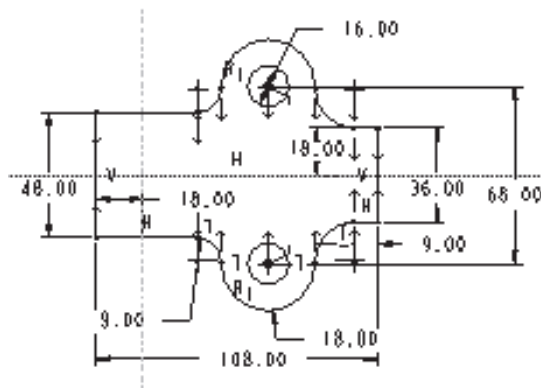
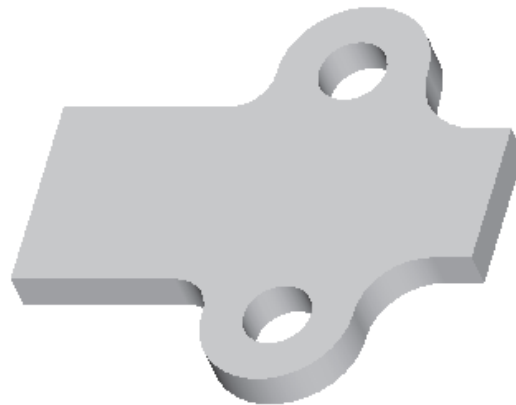

Figure 6-22 Sketch of the base feature
Figure 6-23 The default trimetric view of the base feature
- b. The base feature is an extruded feature, see Figure 6-23. First the sketch of the base feature will be created on the **TOP** datum plane, see Figure 6-22, and then it will be extruded to a depth of 9.
5. Once you enter the sketcher environment, create the sketch of the base feature and apply constraints and dimensions as shown in Figure 6-22. Note that in the sketch, the bottom half of the sketch is mirrored to create the top half of the sketch. This is evident from the constraints of symmetry applied to the sketch in Figure 6-22. Also, as evident from the sketch of the base feature shown in Figure 6-22, the **RIGHT** datum plane is located at a dimension of 18 from the left edge because later in the tutorial, this datum plane will be used as a reference to copy a feature.
The base feature is completed and now the second feature will be created. The default trimetric view of the base feature is shown in Figure 6-23.